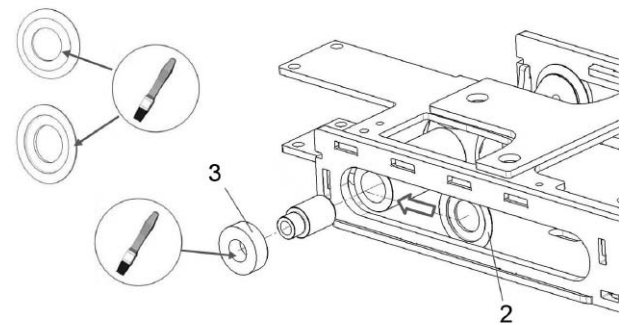

Fig. 19. Lubricate the hole in the plate with grease before mounting the slide puck.
7. Lubricate the contact surfaces of the slide washer (2) with grease before mounting. See fig. 19.
8. Lubricate the hole of the bearing (3) with grease before mounting. See fig. 19.